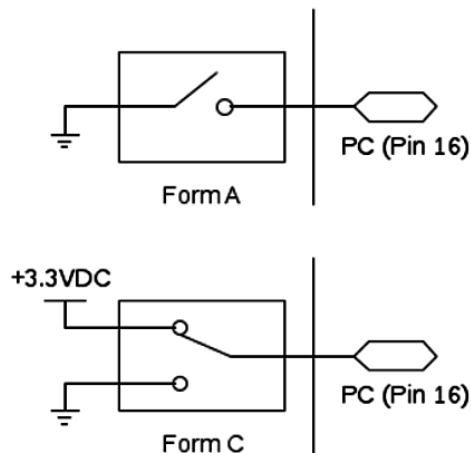

Figure 2: Switch Configurations
Applications requiring a digital pulse counter, such as reed switch power metering, can take advantage of the OE2x module's integrated pulse counter peripheral. The pulse counter can be configured for either Form A or Form C style input(See Figure 2), and can log accumulative counts, or counts per time period. This function is only available on pin 16 (PC).